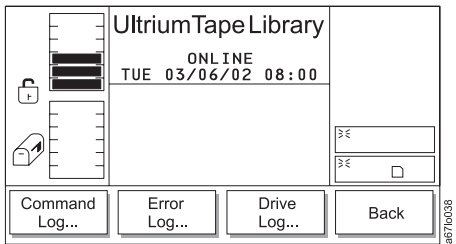

Figure 4-41. Logs Submenu
2. Press the button below the **Logs** softkey. The Logs Submenu displays (see Figure 4-41).